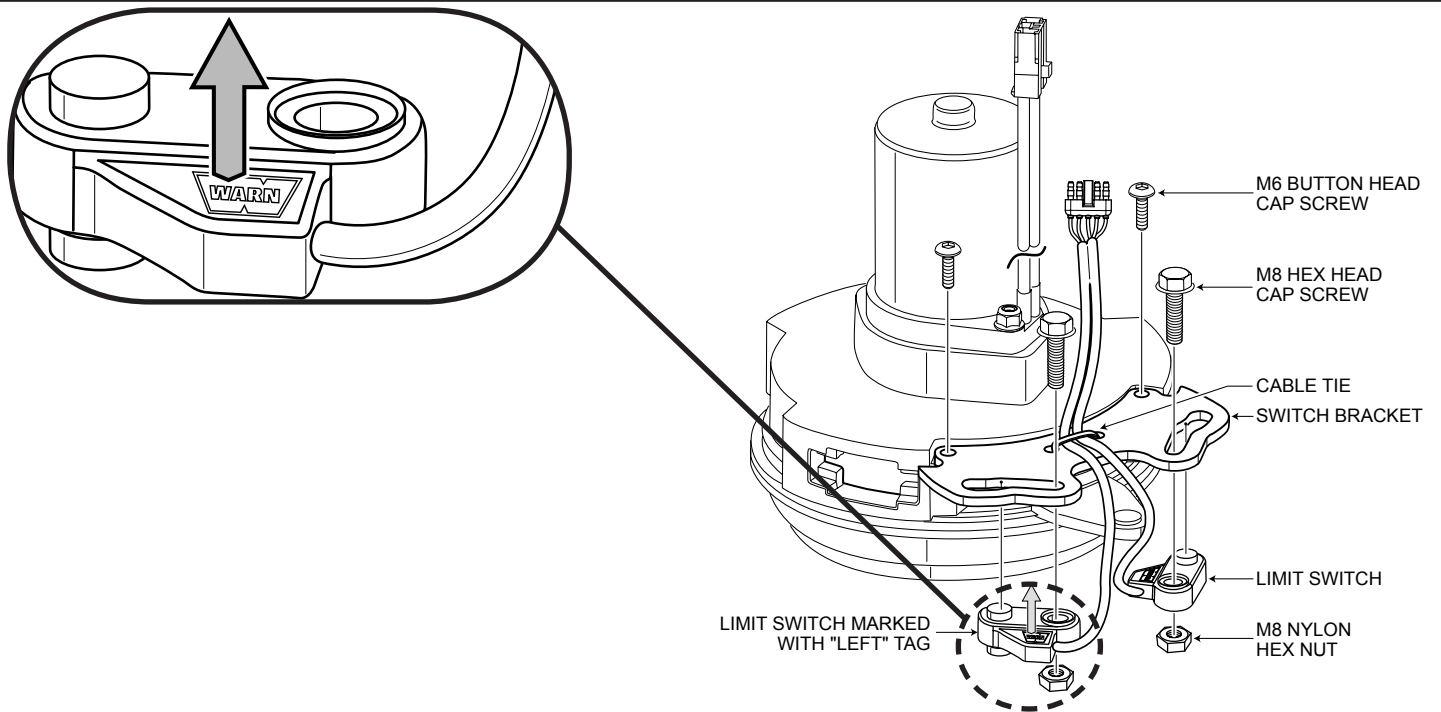

Figure 15
1. Attach the limit switch plate and limit switches to the pivot using the supplied hardware (Figure 15). Connect the limit switch marked with an "L" to the left side of the pivot.